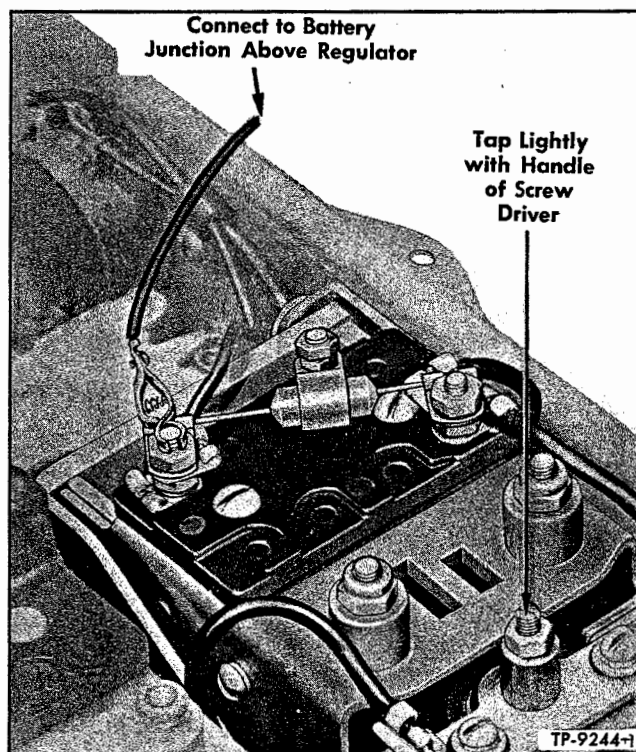

Figure 39—Correcting Excessive Resistance in Stack
2. Using a jumper lead, connect one end of jumper to battery junction stud above regulator (fig. 7). Connect other end of jumper to terminal post on bakelite block of voltage regulator as shown in figure 39. NOTE: There are two terminal posts on voltage regulator; connect jumper lead to the same terminal to which the small lead from system voltage rheostat is connected.
3. With jumper connected, lightly tap voltage regulator stack adjusting screw with handle of a small screwdriver (fig. 39).